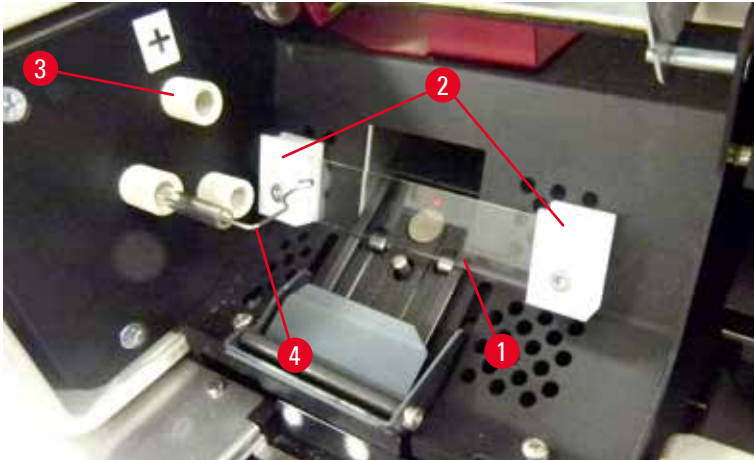

Fig. 20
5. Make sure the contact spring (→ "Fig. 19-2")/(→ "Fig. 20-4") is removed from the ignition wire of the bulb (→ "Fig. 21-1") (see also (→ "Fig. 20"))).